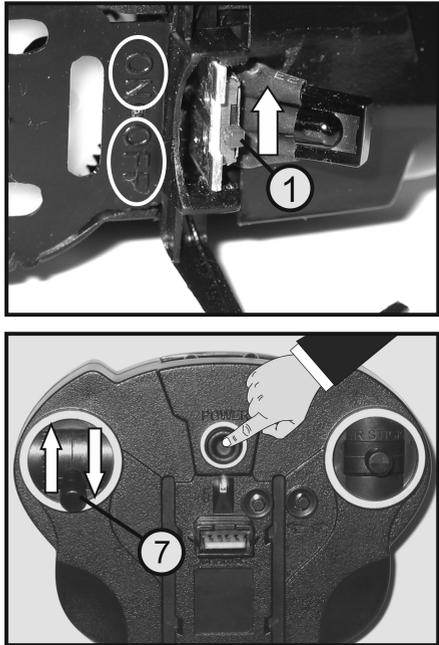

Figure 7
Manually move the centrifugal weight up and down on one side (see arrows in figure 7) and ensure that the ball joints (2) can be moved easily.